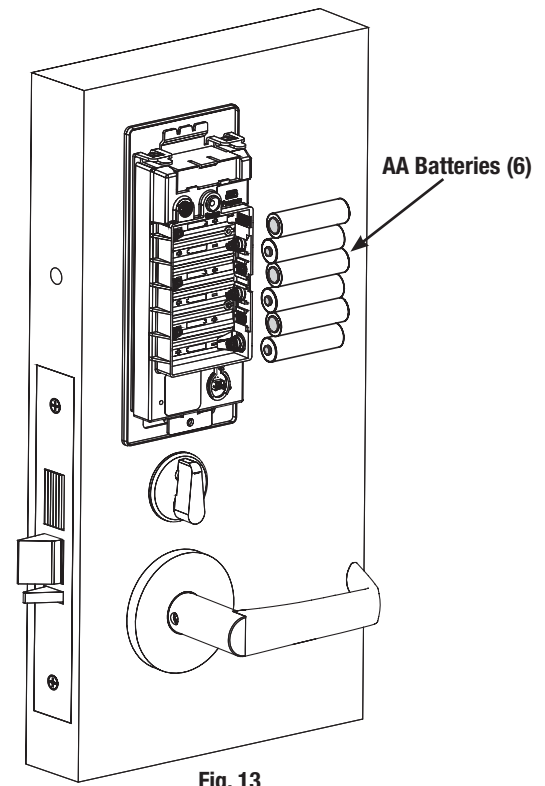

Fig. 13
1. Place (6) "AA" alkaline batteries in the compartment, being careful to align polarity properly (Fig. 13).